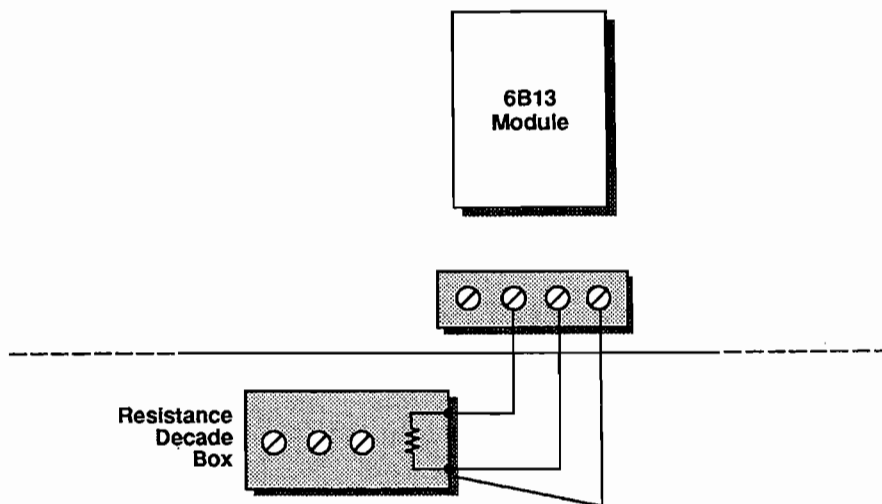

Figure C-2. Applying Calibration Resistance
- 4b. For 6B13 modules, apply the appropriate span calibration resistance to the screw terminals using a 3-wire connection, as shown in Figure C-2.
6. For 6B13 modules, apply the appropriate offset calibration resistance to the screw terminals using a 3-wire connection, as shown in Figure C-2. Refer to Table C-2 for a list of offset calibration resistances for all input ranges.